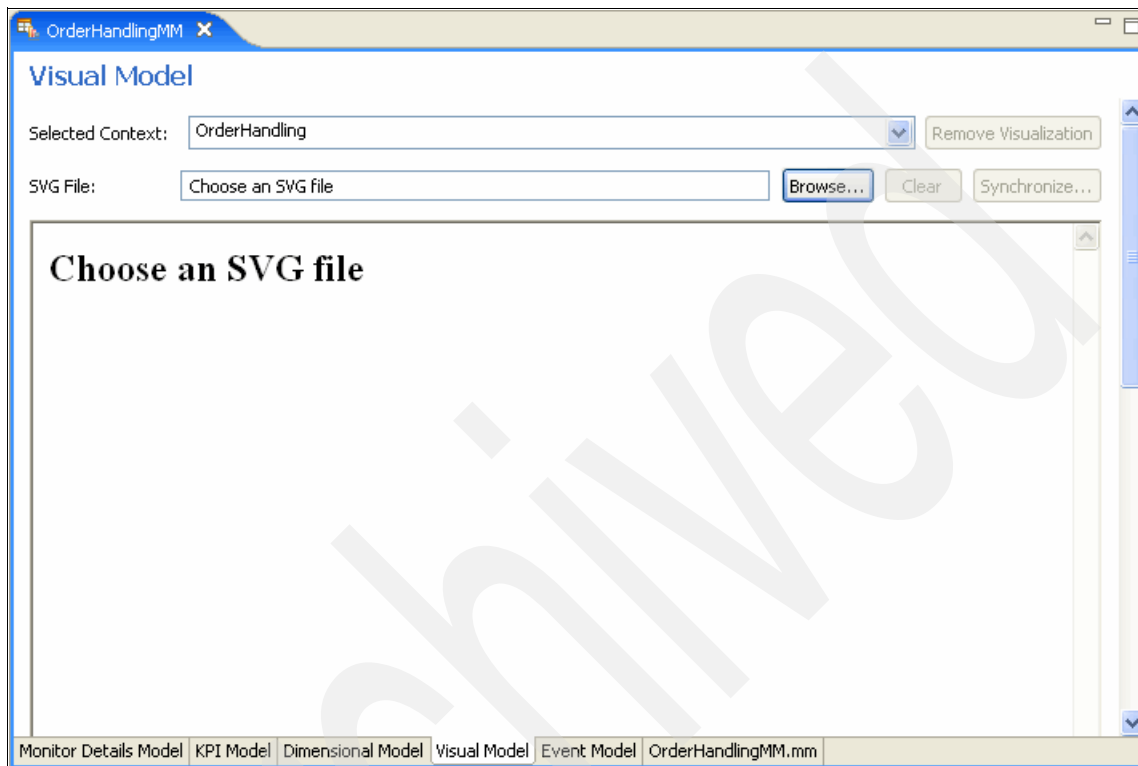

Figure 8-123 Visual model
2. Click the **Visual Model** tab on the bottom of OrderHandlingMM view. In the Visual Model panel (Figure 8-123):